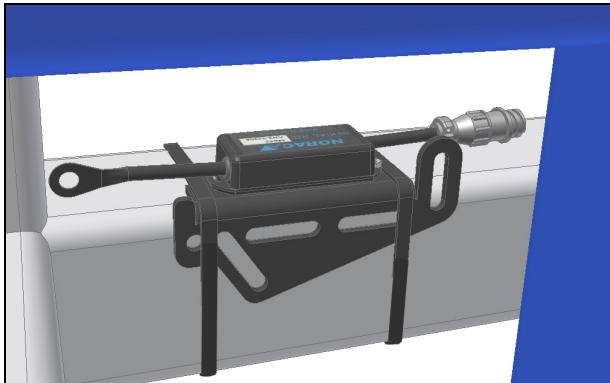

Figure 14 – Chassis roll sensor mounting
1. It is often best to cable tie the chassis roll sensor in place. When mounting the chassis roll sensor follow the guidelines and refer to **Figure 14**.